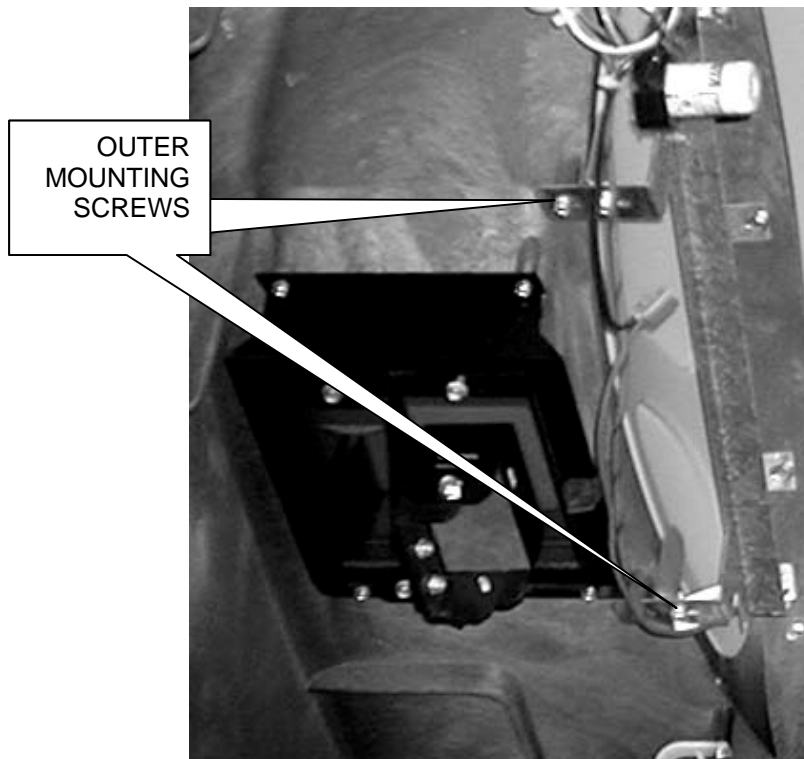

Figure 9 - Removing the Pocket Light Assemblies
1. Remove the two outer Hi-Lo screws securing the pocket light assemblies on both sides of the door the screws will be reused. Refer to *Figure 9*.